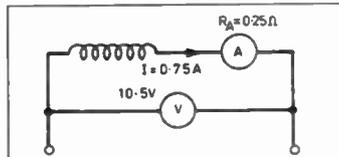

Fig. 4.2. What is the true resistance of the coil?
- The resistance of a coil is measured using the circuit of Fig. 4.2. The ammeter has a resistance of $R_A = 0.25\Omega$ and reads $0.75A$, and the voltmeter reads $10.5V$. What is (a) the approximate resistance of the coil, (b) the actual p.d. across the coil, (c) the true resistance of the coil.